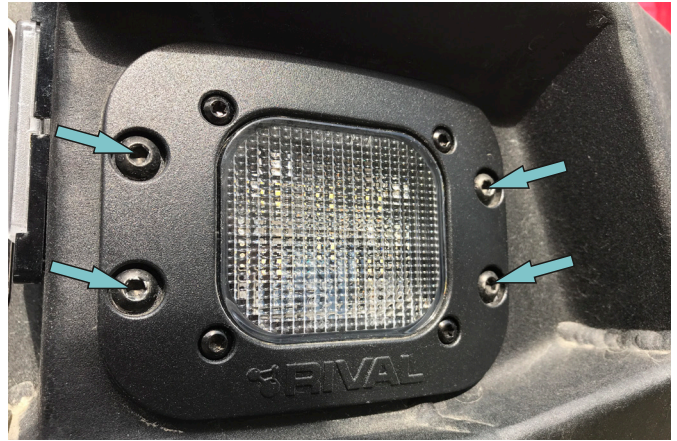

Fig. 25
25. Install LED lights or Lamp plug (item 11), using screws M6x16, washers 6 and nuts M6 (item B, D, F) (Fig.25).